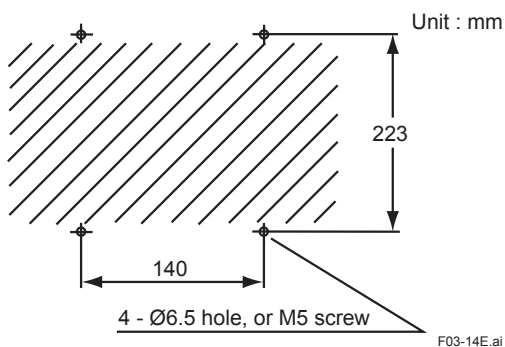

Figure 3.16 Mounting holes
- (1) Make a hole in the wall as illustrated in Figure 3.16.
- (2) Mount the flow setting unit. Remove the pipe mounting parts from the mount fittings of the flow setting unit and attach the unit securely on the wall with four screws.